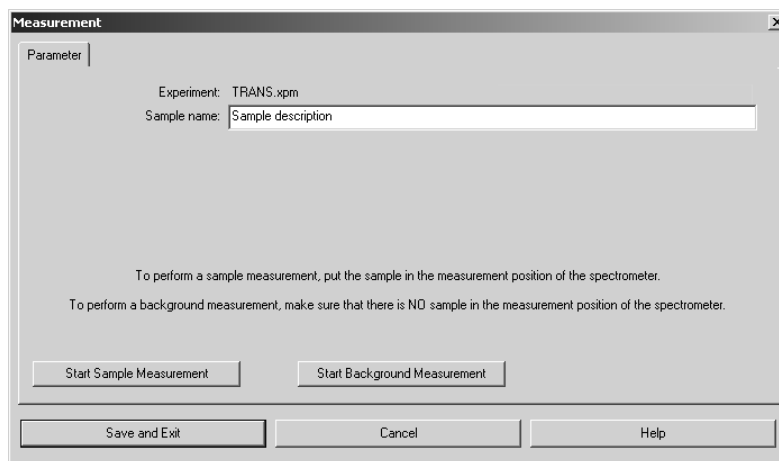

Figure 38: Measurement dialog - Starting a Background/Sample Measurement
- 6 Then click on the *Start Sample Measurement* button (see figure 38).
Note: If you use the factory parameter settings, the spectrum is stored by default under *OPUS path/meas*. The file name is identical to the sample name you have entered in the *Measurement* dialog (see figure 38). If you do not enter a different sample name the file name is incremented with any further measurement.